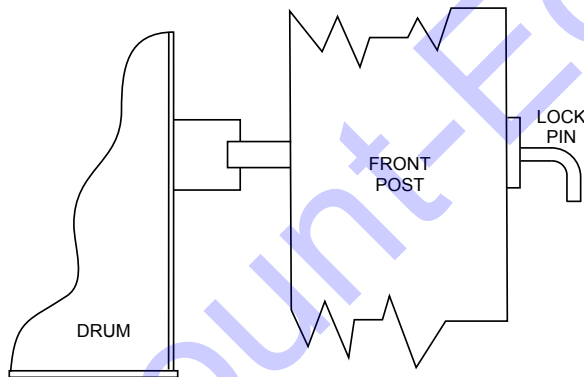

**Figure 19. Belt Slip Lever (Start/Stop Position)**
- Place the belt slip lever (Figure 19) in the START/STOP (disengaged) position.
1. Place the belt slip lever in the start/stop position (Figure 19).